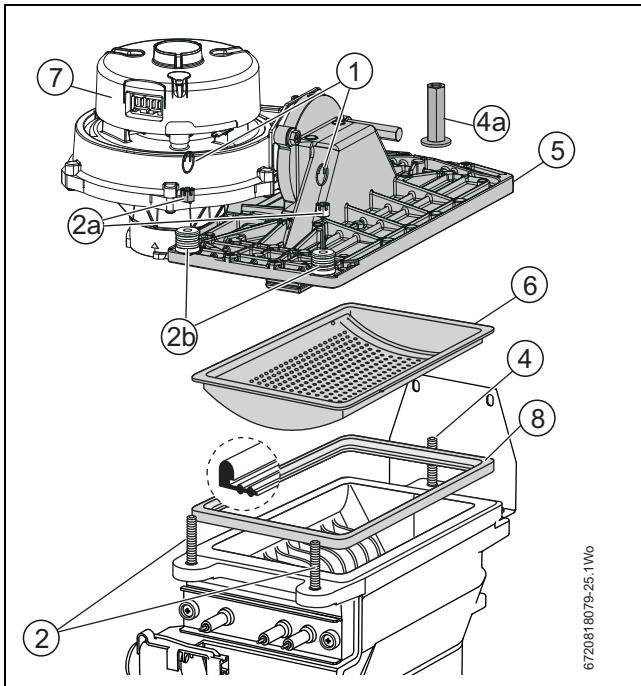

Fig. 48 Burner removal
- ▶ Refer to figure 48 and re-assemble the burner in reverse order
- ▶ Assemble the washers/ spring [2b], and castellated nuts [2a], refer to figure 48, on to the studs [2] to secure the burner cover to the heat exchanger.